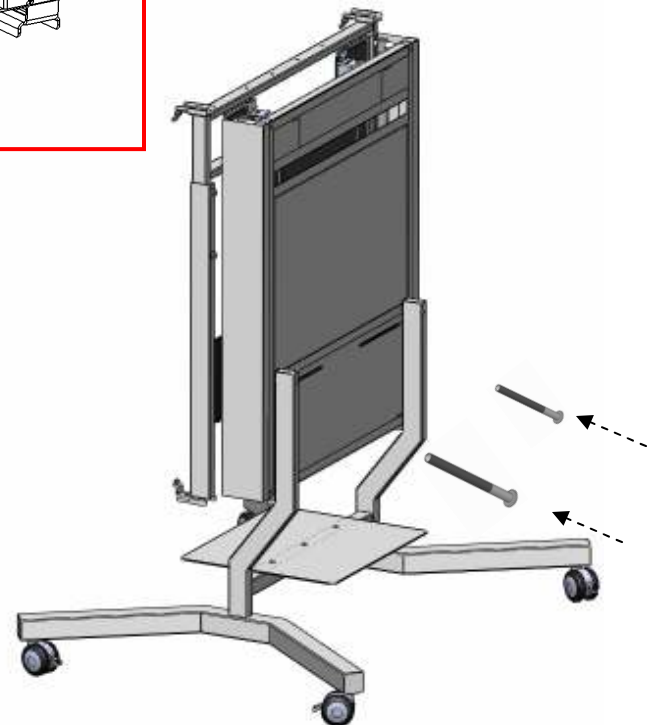

Figure 5.2
- 2) Insert two screws **(J)** from rear of Mobile Stand and tighten securely with Allen Key **(F)** as shown on figure 5.2.